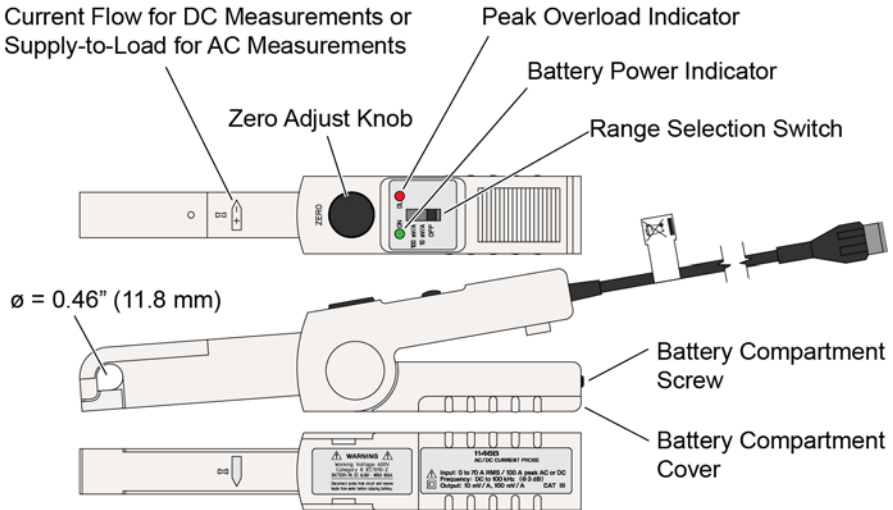

Figure 1 Control and Connector Identification
- 3 Unscrew the battery compartment screw (shown on Figure 1 on page 6) and pull out the battery compartment cover.